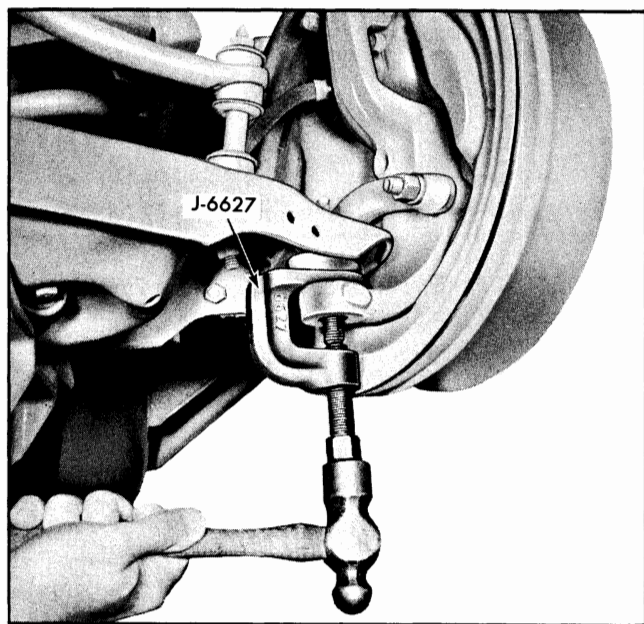

Fig. 3-19 Pressing Lower Ball Stud from Steering Knuckle
NOTE: Spring can also be removed by pressing lower control arm ball stud from steering knuckle with tool J-6627 (Fig. 3-19) and swinging outer end of arm down.
2. Remove ball stud from steering knuckle, using tool J-6627 (Fig. 3-19).
2. Press lower control arm ball stud from steering knuckle with tool J-6627 (Fig. 3-19).